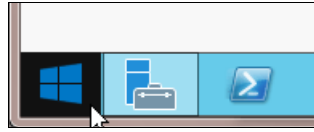

Figure 5-4 Windows 2012 R2 start
1. First, select the **Windows Start** icon in the lower-left corner. See Figure 5-4.